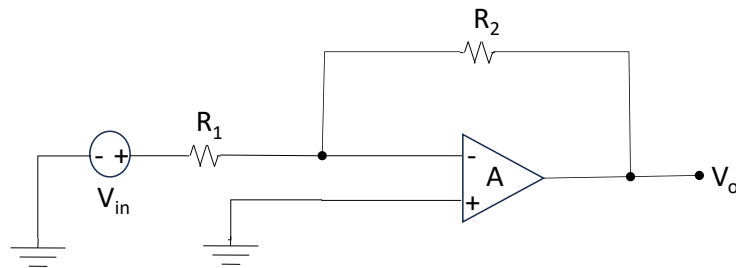

Figure 1.
2. Consider Figure 1 where  $R_2=10\text{ k}\Omega$  and  $R_1=2\text{ k}\Omega$ :